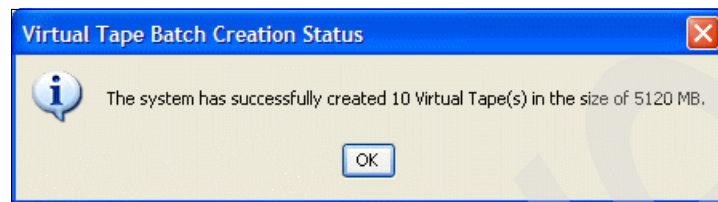

Figure 6-50 Creating additional virtual volumes: tape creation status window
3. Click **OK** on the panel shown in Figure 6-50 to clear the tape creation status message.